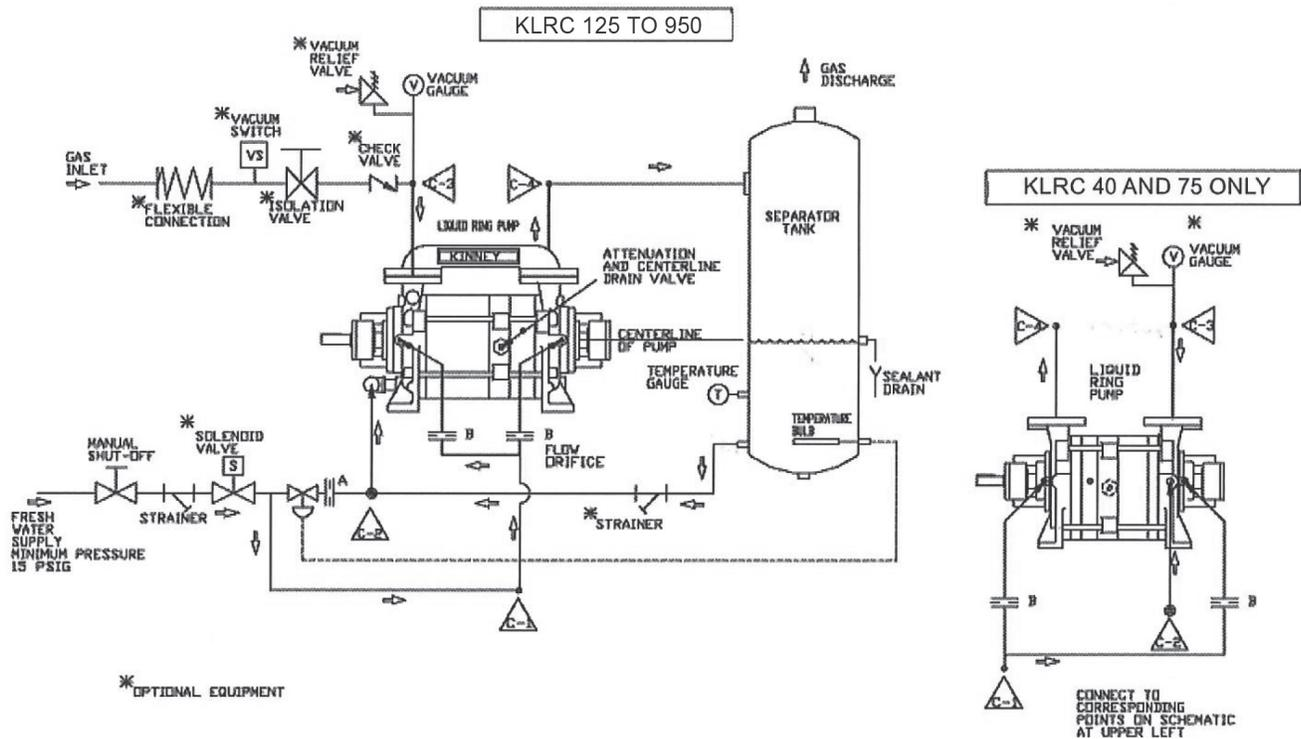

Figure 3-2 – Piping Schematic: Partial Sealant Recovery System
- Partial Recovery (Figure 3-2)